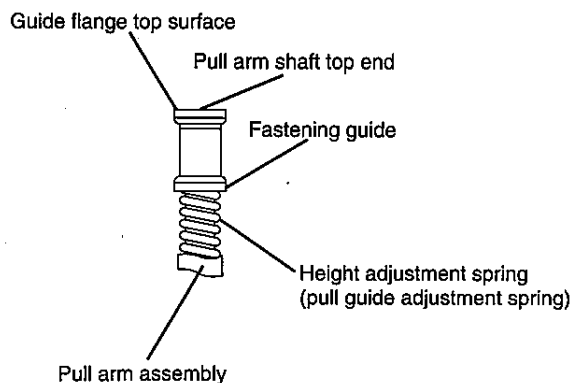

Figure 3-1
2. Turn the guide flanges until the pull arm assembly guide flange top surface matches up with the top end of the pull arm shaft. (See Figure 3-1.)